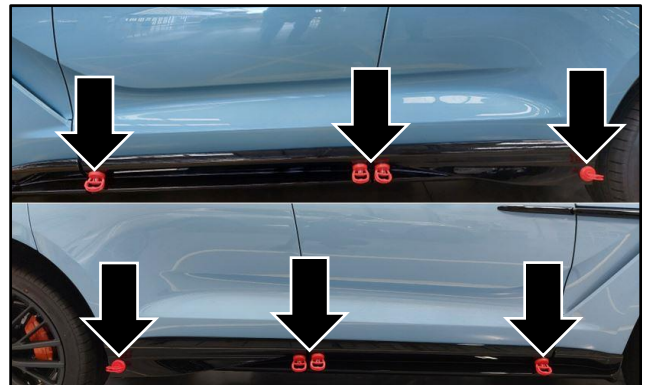

Figure 3
4. Install the suction cup against the flat surface of the door cladding. The image shows all the areas the suction cup must be installed (refer to Figure 3).